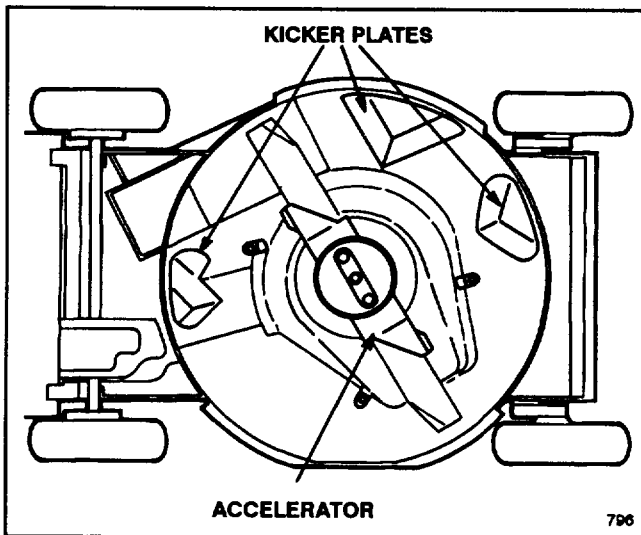

Figure 7
- Three "kicker plates" positioned on the underside of the mower deck in strategic positions (Fig. 7)